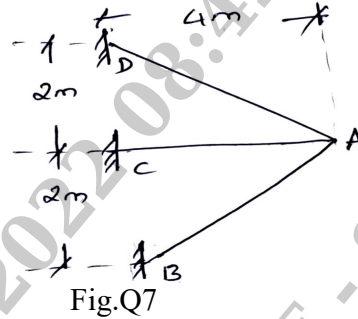

Fig.Q7
- 7 Analyze the truss by flexibility method. Member AD is too long by 3 mm, AC is too short by 5 mm, AB is too short by 8 mm. Member AB is subjected to an increase in temperature by 25°C. AE constant for all members. Take $\alpha = 12.5 \times 10^{-6}/^{\circ}\text{C}$, $AE = 250 \times 10^3 \text{ kN}$. Refer Fig.Q7.